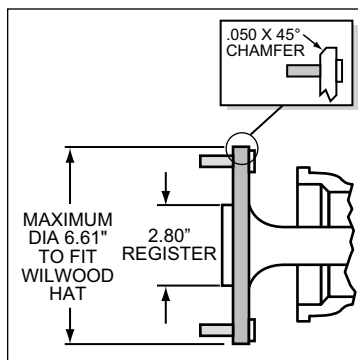

Figure 3. Axle Flange Maximum Dimension
- Axle center register diameter is 2.80", Figure 3. This kit uses Wilwood's removable center register adapters. Rotors can either be centered on the axle register, i.e. *register-centric* or centered on the wheel studs, i.e. *stud-centric*. Due to variations in wheel stud final diameters, *register-centric* centering can be a more accurate method of centering the rotor to the axle. Wilwood offers various diameter adapters for purchase in addition to the ones supplied in this kit, see Table 1.
- Maximum axle flange diameter must be no larger than 6.61" w/.050" x 45° chamfer (see Figure 3).
- Slide the bracket kit assembly (1) onto the housing flange and then insert the axle assembly through the center hole of the bracket kit assembly (1). Secure using the stock Original Equipment Manufacturer (OEM) bolts and nuts. Stock OEM hex nuts that retain the bracket kit assembly (1) should be on the wheel side of the bracket. Apply red *Loctite*® 271 to the stock OEM bolt threads and torque to OEM specifications. Make sure the bracket kit assembly (1) brake pads are FACING OUTWARD TOWARDS THE WHEEL.
- With the larger I.D. side of the rotor (3) facing away from the hat (2), bolt rotor (3) to hat (2) through the backside of the rotor using washers (4) and bolts (5). Apply red *Loctite*® 271 to the bolt threads and torque to 155 **in-lb** using a criss-cross pattern. For an added measure of security, the bolts may be safety wired using standard 0.032 inch diameter stainless steel safety wire as shown in Figure 3. Please refer to Wilwood's data sheet DS-386 (available at www.wilwood.com/Pdf/DataSheets/ds386.pdf) for complete safety wire installation instructions.